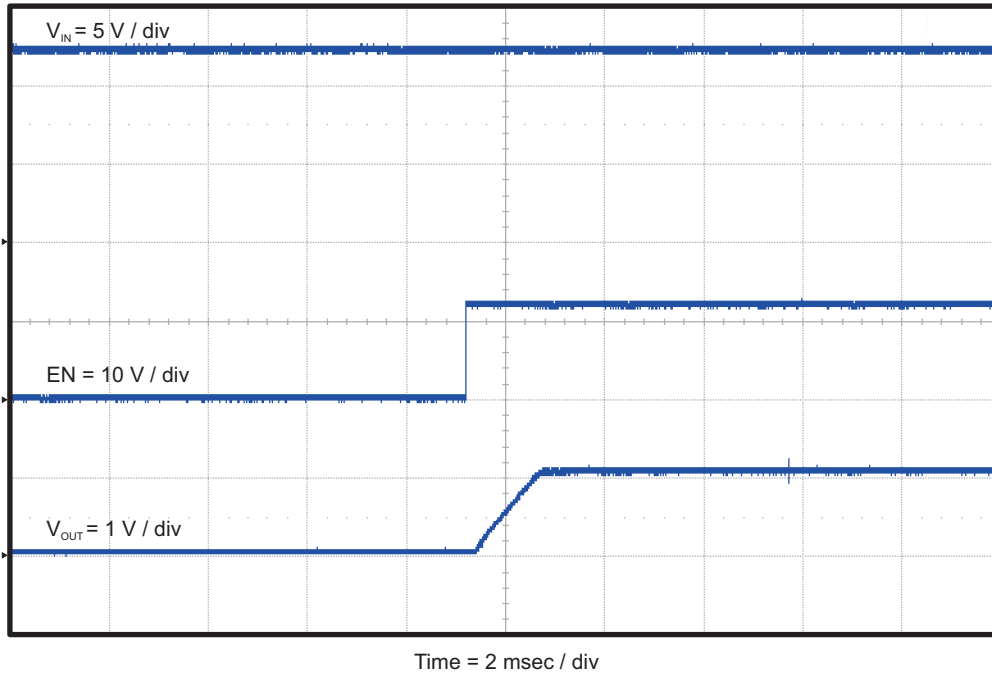

Figure 9. TPS54429EEVM-608 Start-Up Relative to Enable
The TPS54429EEVM-608 start-up waveform relative to enable (EN) is shown in Figure 9.